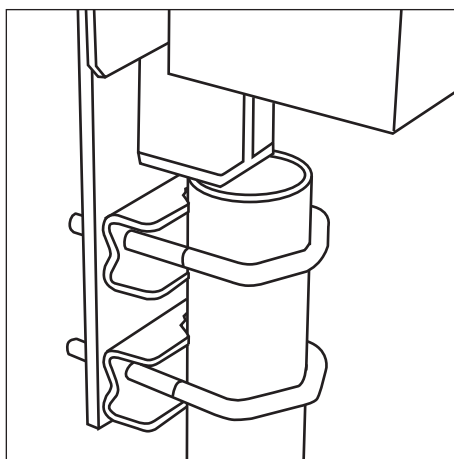

Fig. 2. Bolt the weather station to the top of the post as shown.
2. Slide the U-bolts over the top of the post until the spine of the weather station rests on top of the post, as indicated in Fig. 2.